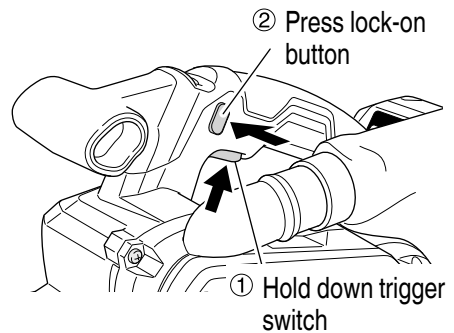

Fig. 14
5. Switching the sander ON and OFF (**Fig. 14**)
(**Fig. 14**)